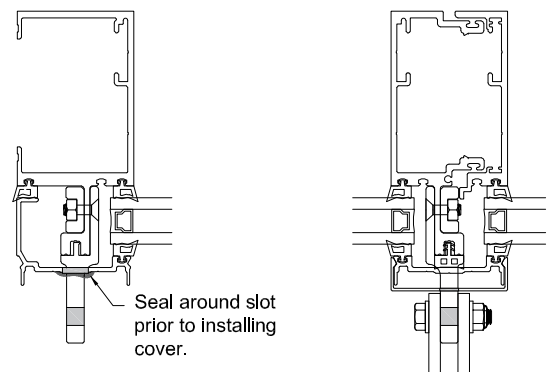

FIG. 5.11
- 6) Install sun shade outriggers using S367 bolt, (2) S302 washers and S368 nut. FIG. 5.11.